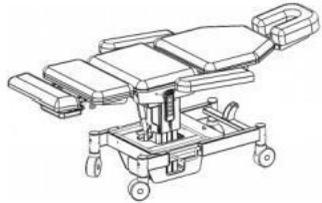

Figure 10
- Press button on line 5 of the hand controller to achieve a one button lay flat position (Figure 10).